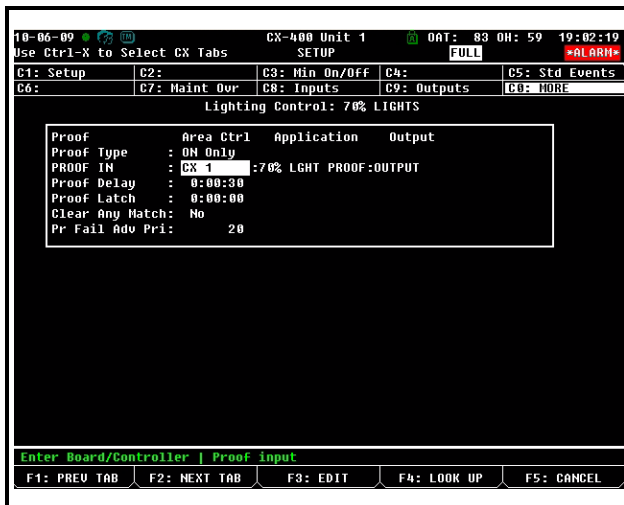

Figure 4-10 - The Digital Combiner Used To Group Inputs
- Go back to the Lighting application under the **More** tab and associate the Lighting group (Figure 4-10) with the Digital Combiner application: